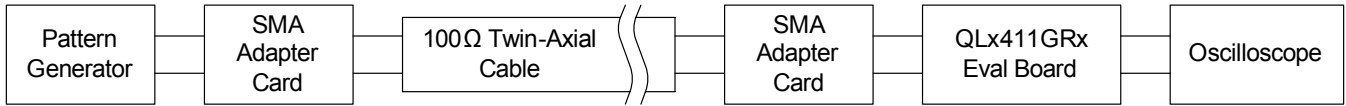
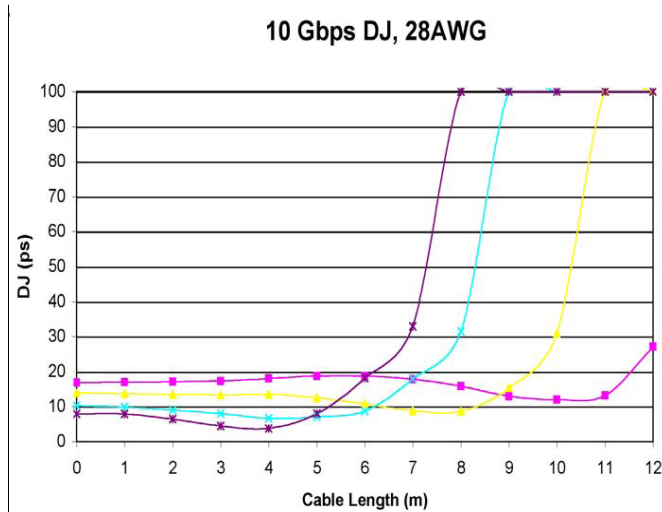

FIGURE 1. DEVICE CHARACTERIZATION SET UP
FIGURE 2. JITTER vs CABLE LENGTH AT 10Gb/s (BOOST LEVELS 0-3)
Performance is measured using the test setup illustrated in Figure 1. The signal from the pattern generator is launched into the twin-ax cable using an SMA/CX4 adapter card. The chip evaluation board is connected to the output of the cable through another adapter card. The QLx411GRx output signal is then visualized on a scope to determine signal integrity parameters such as jitter (Note 7).
- Prior to the tapeout, the data in Figures 2 and 3 represents simulations approximating the conditions of setup in Figure 1, not measured data.